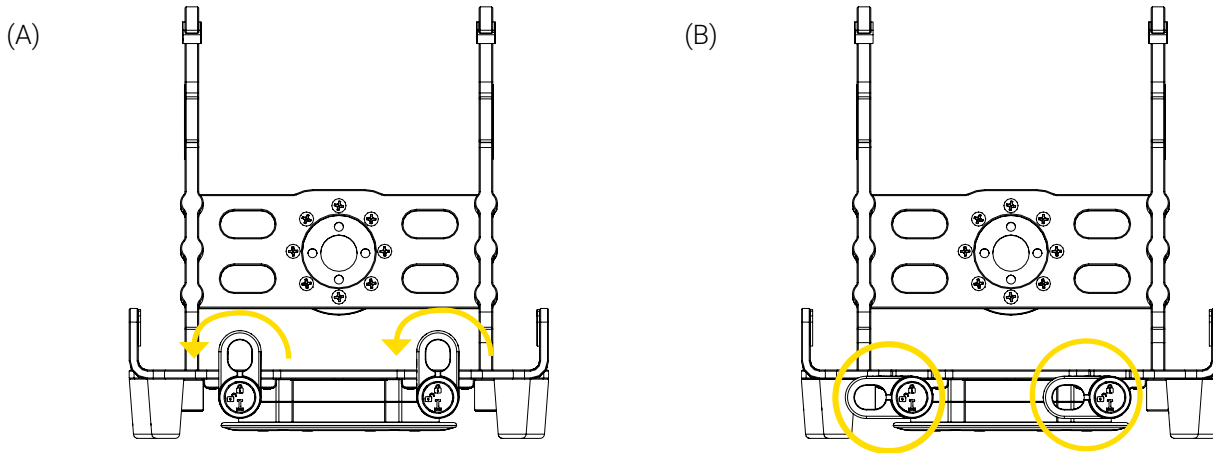

Figure 2: Unlocking the Bracket Pro Serie 60 - GR
1. If the two (2) rotary locks located at the front of the bracket are in the locked position  (Figure 2 A), turn them a quarter of a turn counterclockwise to the unlocked position  (Figure 2 B).